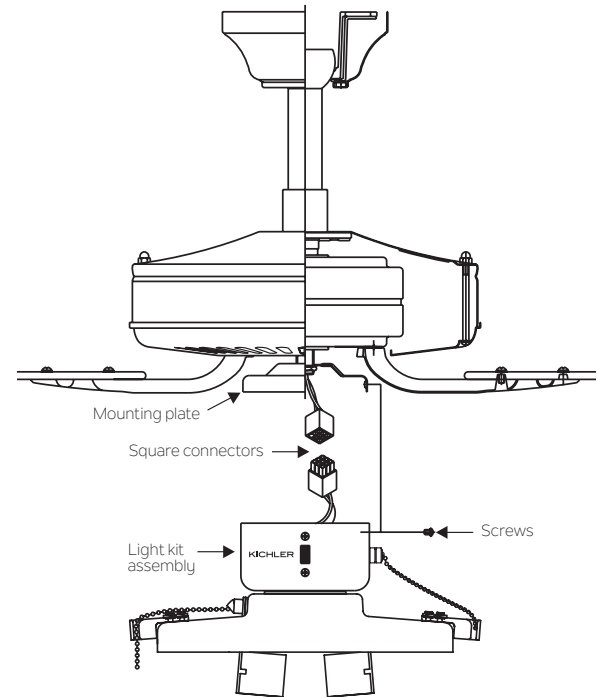

Fig. 2
4. Raise and hold the light kit assembly close to the mounting plate of the ceiling fan. Push the square wire connectors together. (Fig. 2)
5. Carefully push all wires back into the switch housing, then install the light kit assembly onto the mounting plate with 3 screws provided. Be sure to tighten all screws. (Fig. 2)